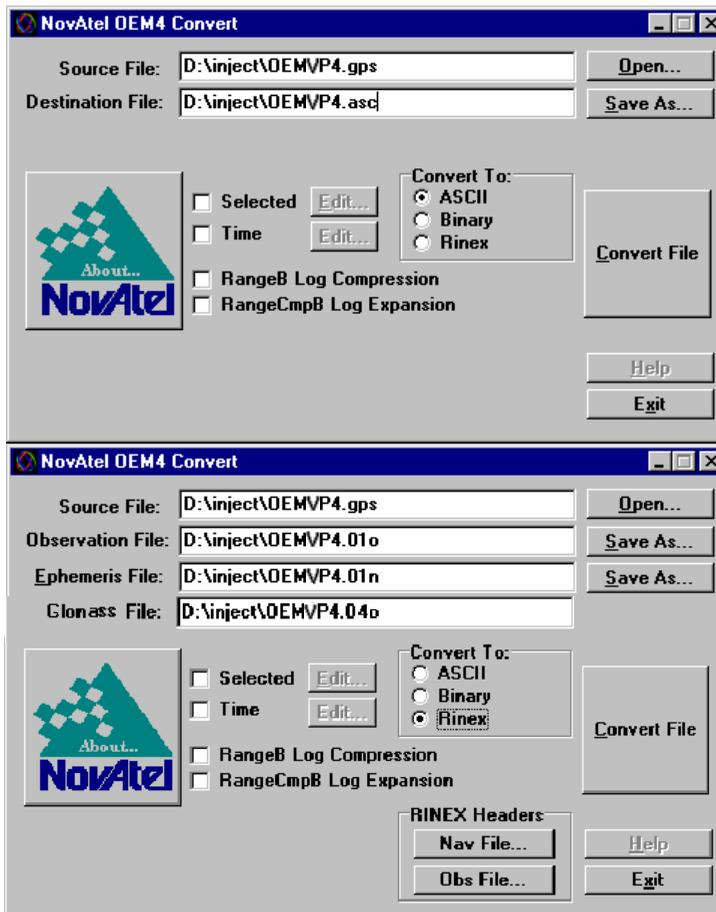

Figure 23: Convert4 Screen Examples
Convert4 is a 32-bit Windows application and is shown in *Figure 23*. Convert4 will accept GPS file formats and convert them to ASCII, Binary or RINEX format. The application also allows the user to screen out particular logs by selecting the desired logs from the list of available logs. This feature is useful for screening particular logs out of large data files in either ASCII or Binary formats.
Selecting the RINEX field, see *Figure 23, Convert4 Screen Examples on page 78*, in the Convert4 To section causes the:
- a. Information from this log overrides data entered into the Receiver Number, Type and Version fields using the OBS file button of the RINEX Headers section, see *Figure 23* on *page 78*.